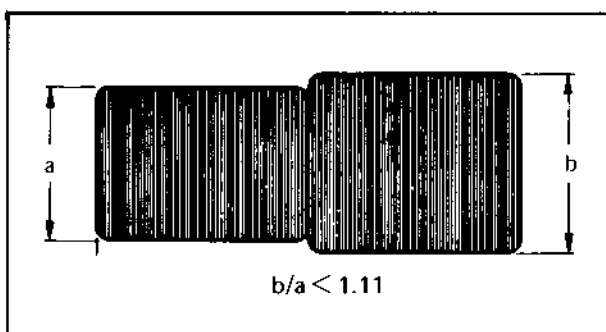

Fig. 5-33 FM channel balance
3. Check the level difference between the channels is within 1 dB as shown in Fig. 5-33.